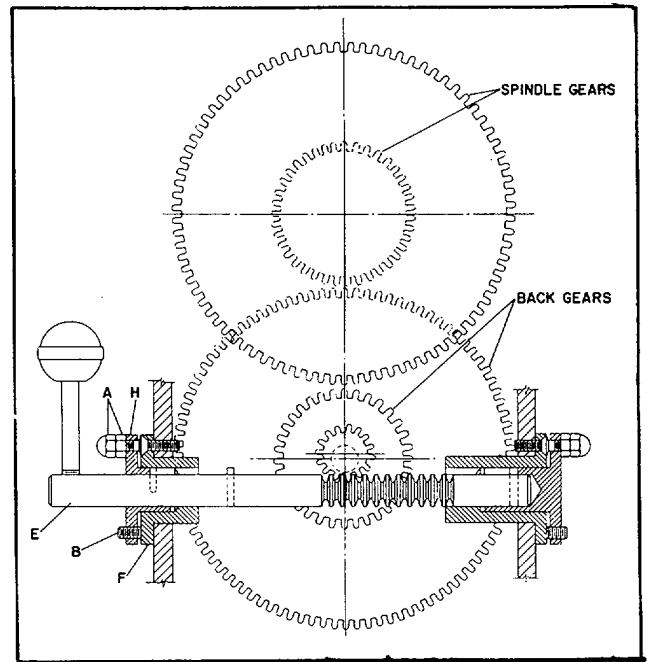

Fig. 17.
1. Engage the back gears and spindle gears by pulling the back gear engagement shaft (E) Fig. 17, out against the stop and rotating the shaft so the lever points down.
2. Loosen three set screws (B) Fig. 17, and tighten the three jam nuts and the three acorn nuts (A) until correct backlash is obtained. Then tighten the three set screws (B) so that they bottom on flange (F).
2. Loosen the three acorn nuts and three jam nuts (A) Fig. 17. Tighten the three set screws (B) until correct backlash is obtained. Then tighten the jam nuts and acorn nuts (A) Fig. 17.